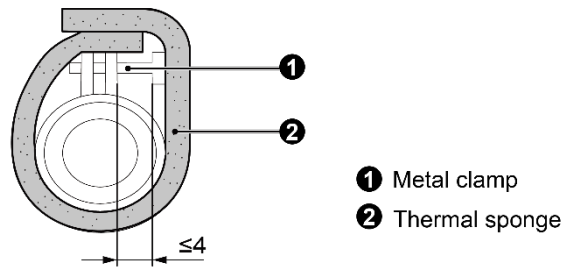

Fig.4.3.3
- (3) Use sealing plate to make the pipe clamp and hose insulated, as shown in Fig.4.3.3.